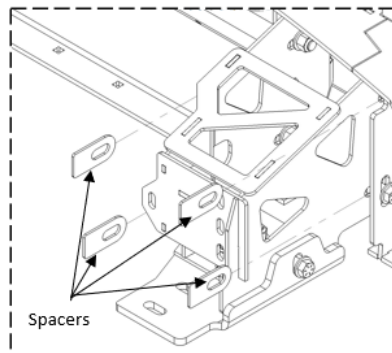

Figure 3c: Truck Guard Installation
3. Install the HERD Truck Guard to the Submounts; **follow the positioning as shown in Figure 3b and Figure 3c.** Adjust the HERD Truck Guard and use the provided Spacers (1/16" and/or 1/8") as necessary. Tighten all mounting hardware after adjustment, and **torque 1/2" Hardware to 96 ft-lb.**